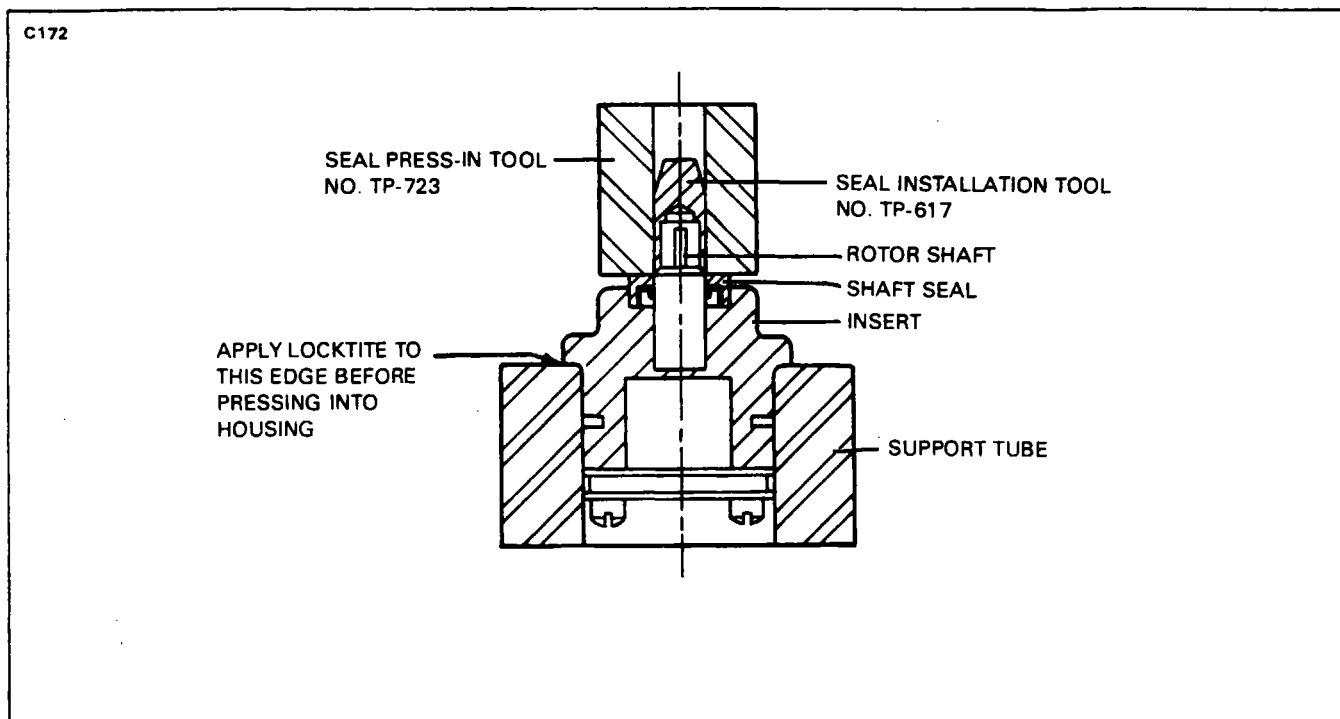

Figure 9-25. Shaft Seal Installation
- d. Place the insert in a 15/16 inch I.D. Support Tube (Refer to Figure 9-25).